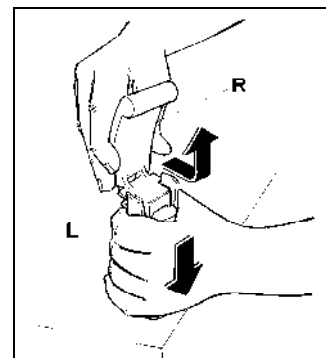

Fig. 17
- Disassemble the dispensing tap by keeping the indicated part (R) pressed down and slipping off the dispensing lever (L) (see figure 17).